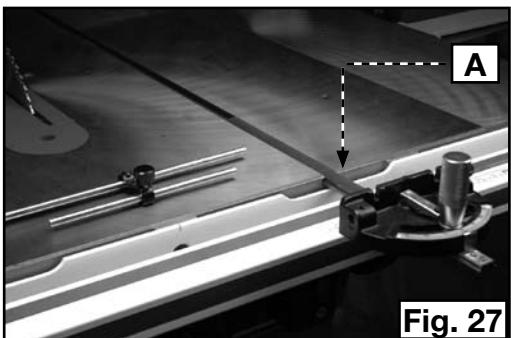

Fig. 27
1. Insert the miter gauge bar (A) Fig. 27 in the T-Slot of the saw table. The t-slot miter gauge bar will prevent the miter gauge from falling when it is extended beyond the table surface.